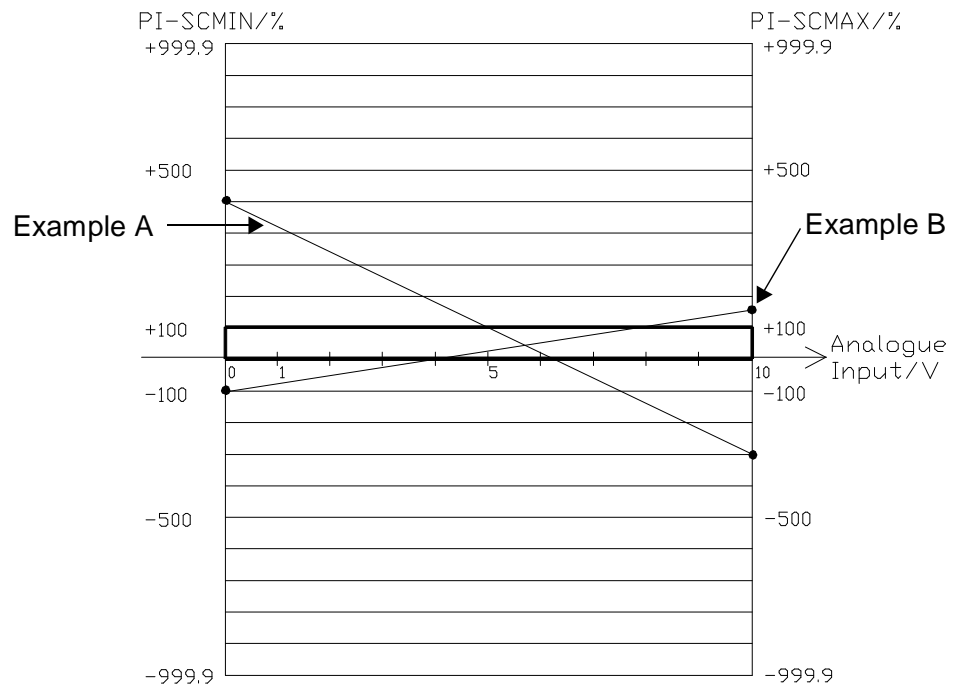
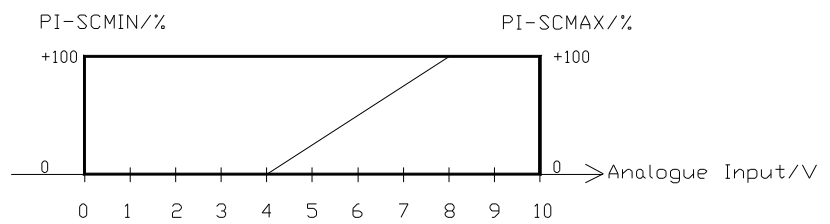

Figure 7-9 PI Controller, the scaling of actual value.
Figure 7-10 Operating range, example B.
**PI-SCMIN** Minimum scaling factor of the actual value. The setting range is -999.9 to 999.9 %. The value of PI-SCMIN can be higher than the value of PI-SCMAX. See the example A in Figure 7-9. In this example, PI-SCMIN is 400 % and PI-SCMAX is -300 %.
**PI-SCMAX** Maximum scaling factor of the actual value. The setting range is -999.9 to 999.9 %. See Figure 7-9 and Figure 7-10. In this example B, 4 V is equivalent to 0 % and 8 V is equivalent to 100 %. You can get the corresponding values for parameters PI-SCMIN and PI-SCMAX from the straight line in Figure 7-9. In the example B, PI-SCMIN is -100 % and PI-SCMAX is 150 %.